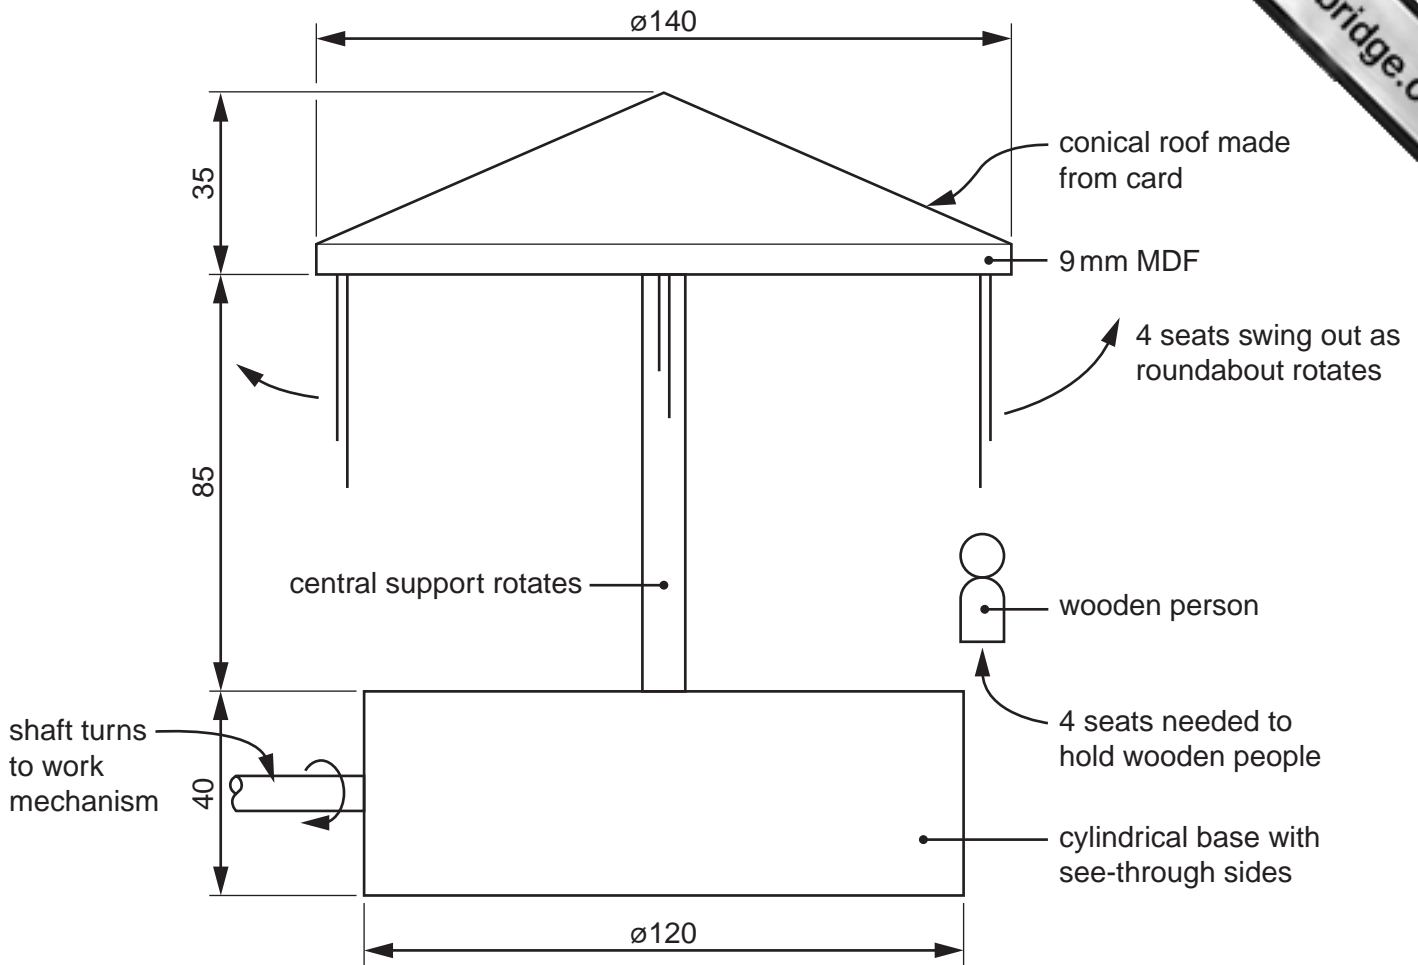

Fig. 10
- 9 Fig. 10 shows an incomplete idea for a toy roundabout (carousel).